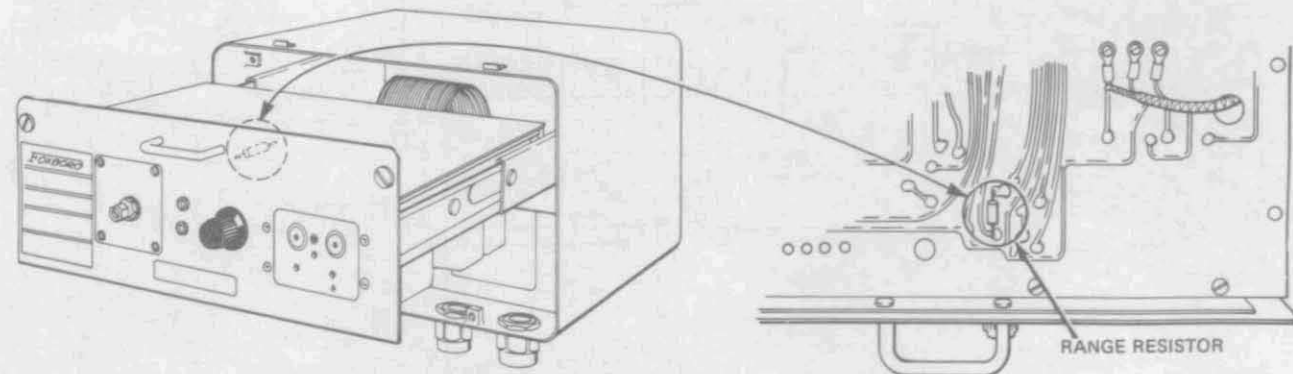

Figure 6
3. If the span of the converter is set above 10 millivolts, jumper the range resistor on the main board assembly. See Figure 6.